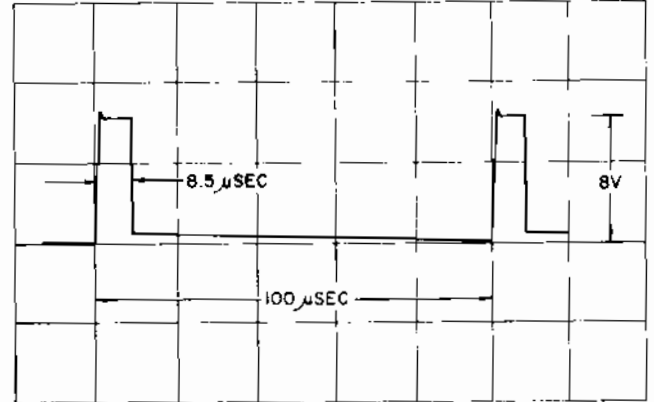

FIGURE 6.14 - WAVEFORM AT COLLECTOR OF Q9
n. Compare the waveform and amplitude at the junction of R26 and R28 (collector of Q9) with that in figure 6.14.
d. Connect the oscilloscope to the junction of R26 and R28 (collector of Q9). Set R24 to the center of the range which results in a waveform with time between pulses equal to that shown in figure 6.14.